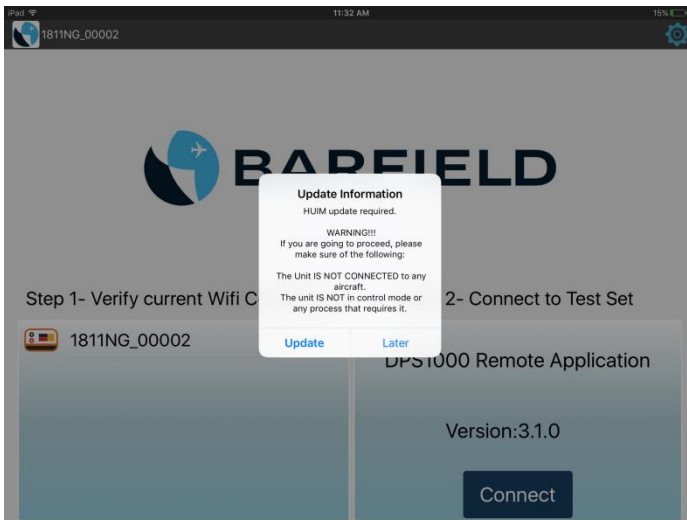

Figure E. 21 HUIM Update Only
- Usually, the unit requires update from both HUIM and PCM. However, there are some instances when only one update process is required. In this case, the software not requiring an update remains disabled. (Fig. E. 21 and E. 22).